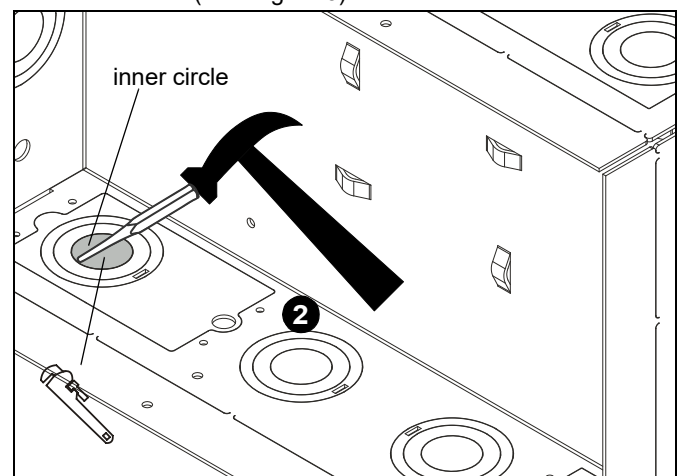

Figure 3
1. Remove inner circle by knocking it out from the inside using a punch tool and hammer. Use locking pliers to remove from outside box. (See Figure 3)